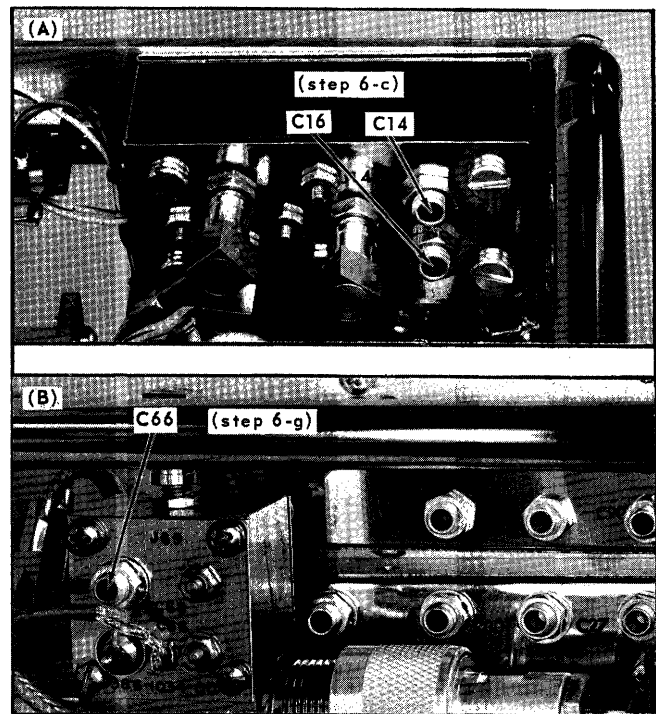

Fig. 6-19. Location of RF Mixer adjustments (Step 12).
- g. Adjust C66 (see Fig. 6-19) for best sensitivity and flat-